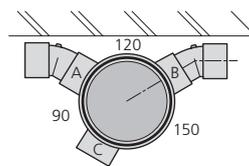

Fig.29b Flat wall layout
- Use bosses A and B for flat situations (two waste pipes approaching at 180°) (Fig.29b)